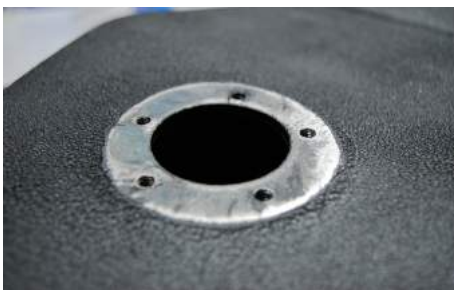

Figure 11: Tank after Drilling
- Mark and drill the bolt holes. (Refer to Figure 11.)